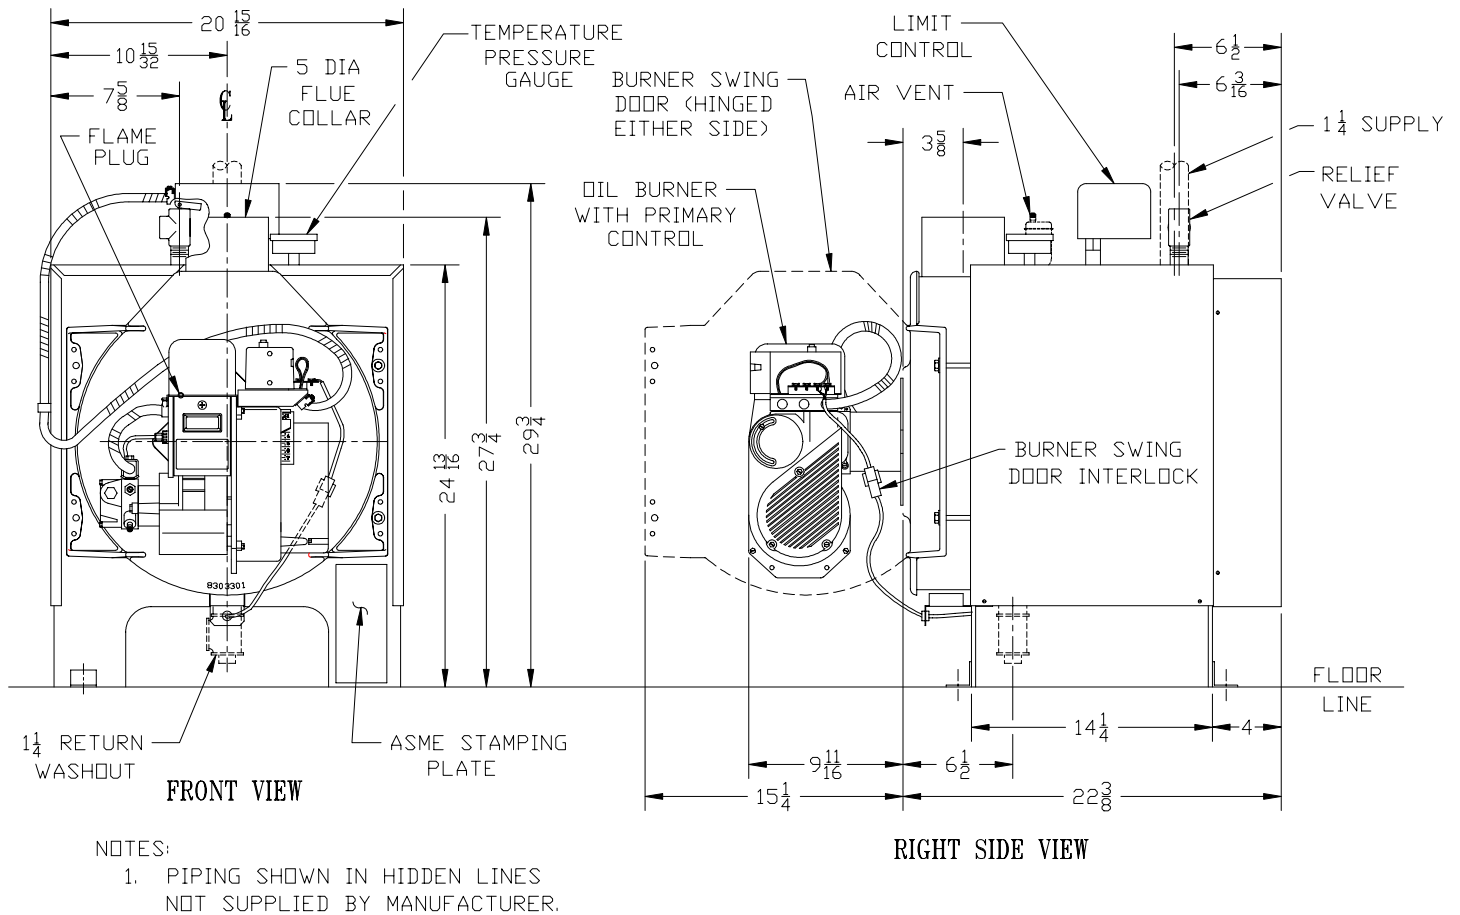

Figure 1: LEDV Packaged Boiler
2. **ANY CLAIMS** for damage or shortage in shipment must be filed immediately against the carrier by the consignee. No claims for variances from, or shortage in orders, will be allowed by the manufacturer unless presented within sixty (60) days after receipt of goods.
B. LOCATE BOILER in front of final position before removing crate. See Figure 1. Boiler's approximate shipping weight is 325 pounds.